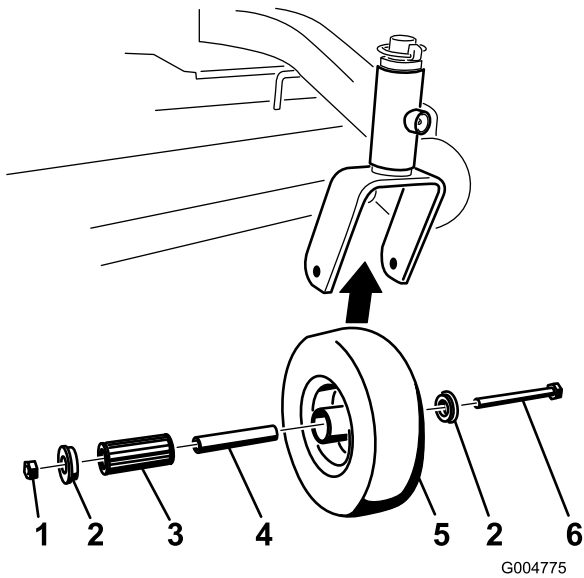

Figure 39
1. Remove the locknut and wheel bolt holding the caster wheel to the caster fork (Figure 39).
2. Remove 1 bushing, then pull the spanner bushing and roller bearing out of the wheel hub (Figure 39).
3. Remove the other bushing from the wheel hub and clean any grease and dirt from the wheel hub (Figure 39).
Note: Replace any defective or worn parts (Figure 39).
Note: Grease the roller bearing and spanner bushing and slide them into the wheel hub. Place the second bushing into the wheel hub (Figure 39).
Note: Tighten the locknut until the spanner bushing bottoms against the inside of the caster forks (Figure 39).